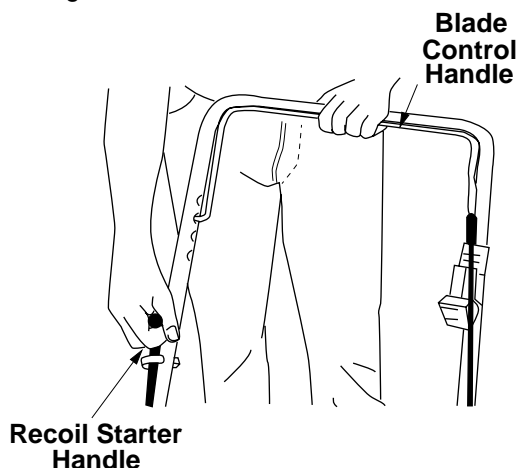

Figure 13
3. Standing behind the unit, depress the blade control handle and hold it against the upper handle as shown in Figure 13.